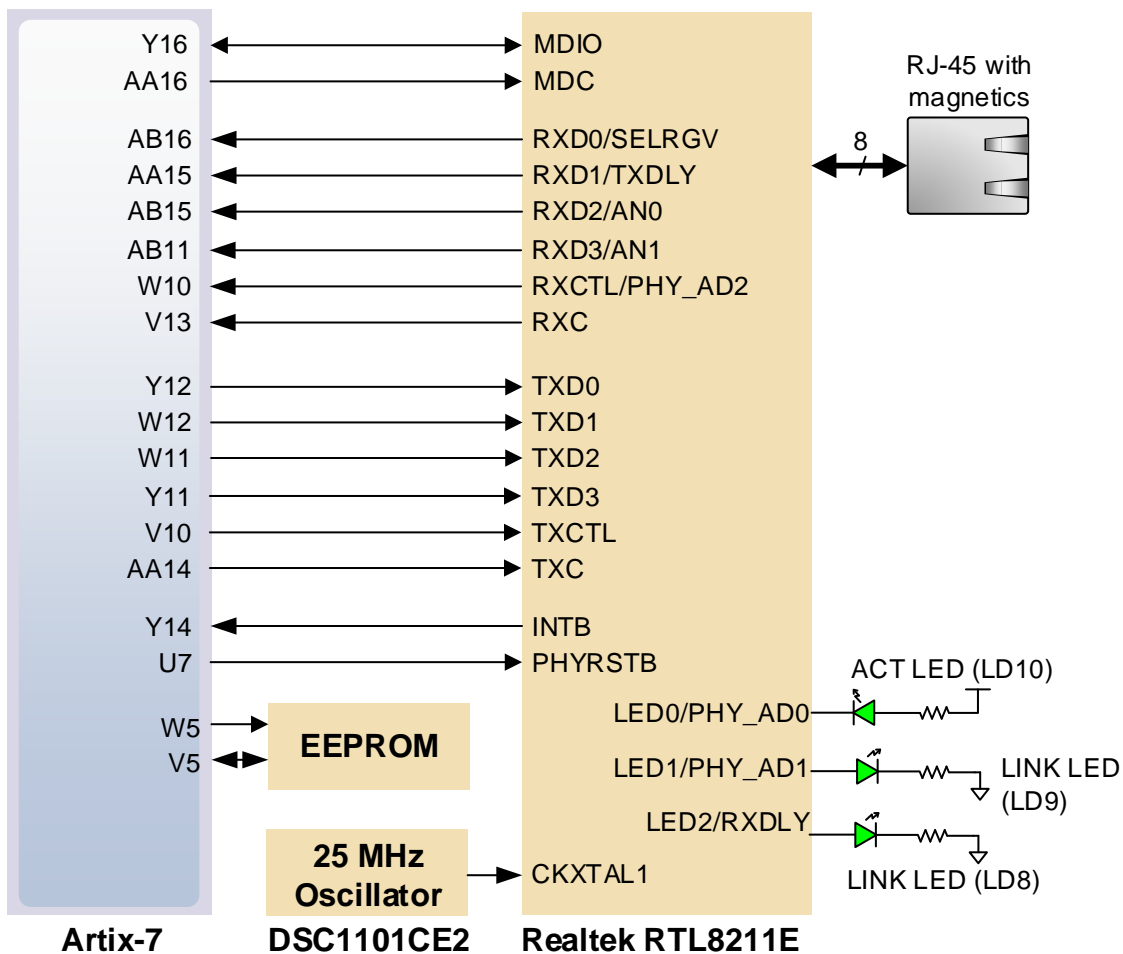

Figure 4. Pin connections between the Artix-7 and the Ethernet PHY.
The Nexys Video board includes a Realtek RTL8211E-VL PHY paired with an RJ-45 Ethernet jack with integrated magnetics to implement a 10/100/1000 Ethernet port for network connection. The PHY interfaces with the FPGA via RGMII for data and MDIO for management. Bank 13 powered at 2.5V is populated with these signals. The auxiliary interrupt (INT\_B) and power management (PME\_B) signals are also wired to bank 13. The reset signal (RST\_B) is the only one wired to a different bank (34), powered at 3.3V. The connection diagram can be seen in Figure 4.